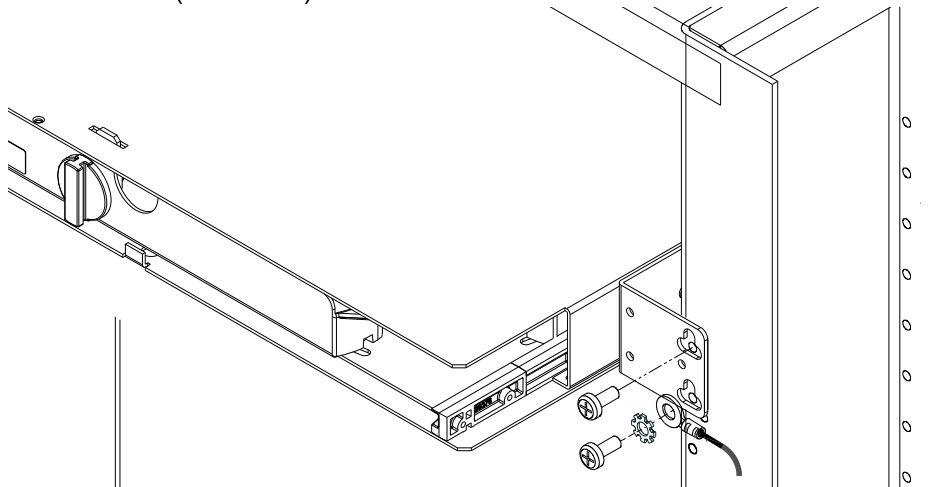

Figure 38 - Mounting 1RU LCX Panel to Rack
1. Mount each panel to rack using four, 12-24, thread-forming mounting screws (supplied, two per side), as shown in Figures 38 and 39. With one of the screws, include a ground lug and star washer. (Use one ground lug and #14 AWG stranded wire per chassis.)